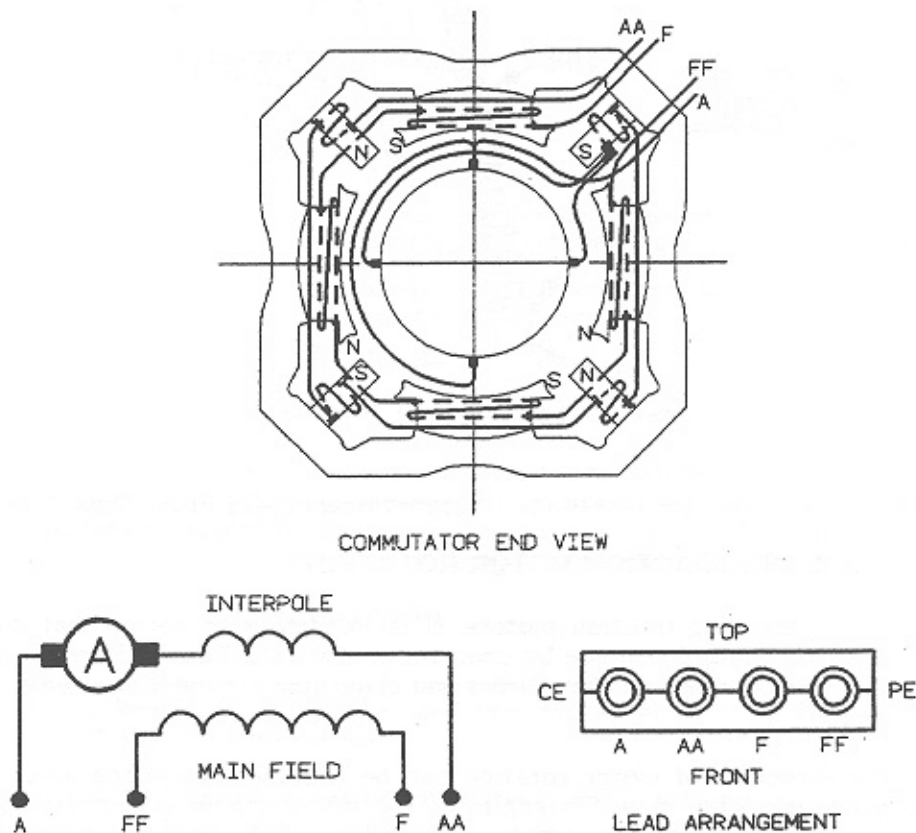

Fig. 47 - Wiring Diagrams
2. Measure the resistance of the main field and interpole coil circuits with a Kelvin bridge. Check temperature with thermocouple probe and potentiometer as follows. Refer to Fig. 47.
If the resistance is satisfactory, polarity may be checked to determine that the coils are properly located in their magnetic position. Using a low voltage DC power supply and a compass, check the polarity as follows. Refer to Fig. 47.